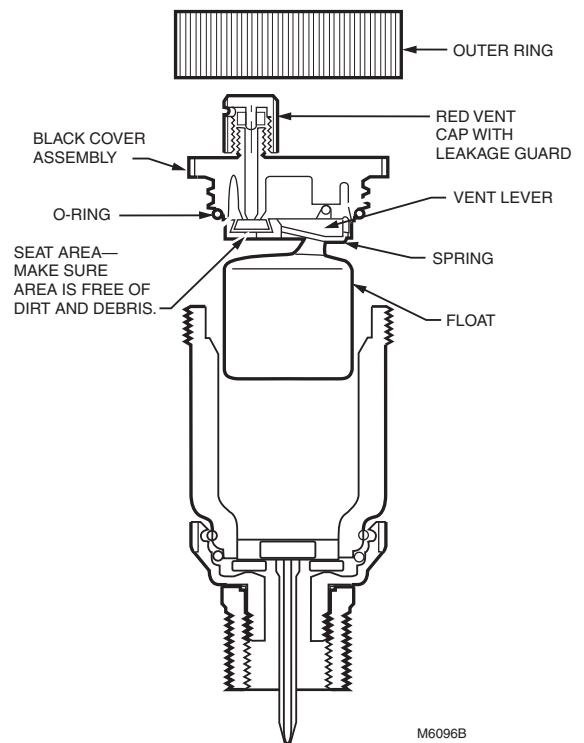

Fig. 5. EA79 construction.
2. Remove the float assembly by unscrewing the outer ring at the top of the body and lifting up the black cover assembly. See Fig. 5.
5. Replace the float assembly, making sure that the O ring is seated properly (see Fig. 5).
The EA79 is not venting air or there is too much air in the system.	<ol style="list-style-type: none"><li>1. Check the red vent cap; make sure the vent passage is open (disks are not swelled).</li><li>2. Check that the valve is in the open position.</li><li>3. Make sure that the float is attached to the vent lever as shown in Fig. 5.</li></ol>